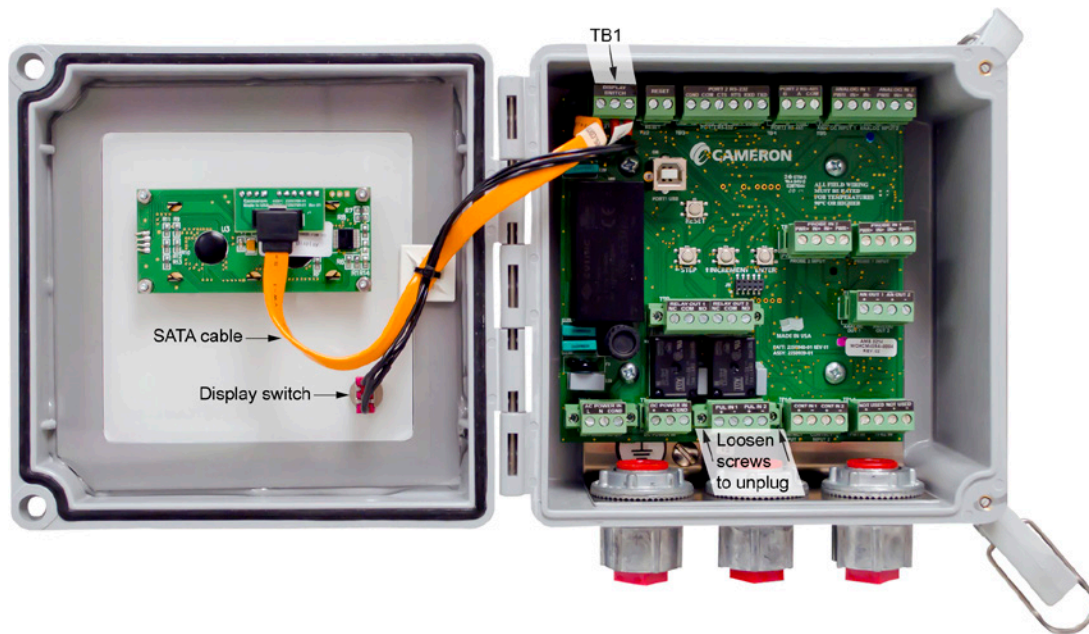

Figure 5.2—Weatherproof circuitry
2. Release the latches and open the enclosure door to access the circuit assembly (Figure 5.2, Page 46).
4. Unplug the display switch from TB1, located in the upper left corner of the circuit board (Figure 5.2).